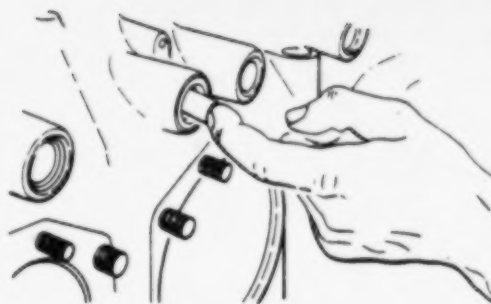

Figure 5-6. Pushrod socket removal
a. Removal. (1) Remove valve mechanism. (Refer to paragraph 5-36.)
(2) Remove pushrod socket (2, figure 5-5) from hydraulic tappet assembly with finger as shown in figure 5-6. If pushrod socket is stuck, use a pair of needle nose pliers to loosen.